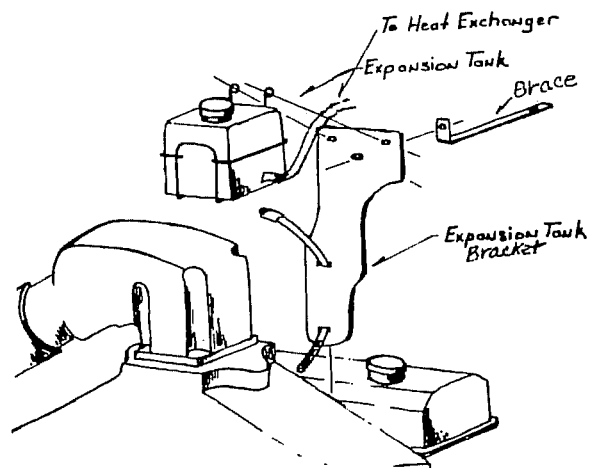

Figure 4
22. With the exp. tank bracket facing you (Figure 4) thread the #88 hose clamp through the two slotted holes at the bottom of the bracket. Slide tail of the hose clamp and bottom of the bracket down between the left exhaust manifold and valve cover. Tighten hose clamp so bracket is loosely held in place. Attach exp. tank brace between the exp. tank bracket and the center stud of the flame arrester, using 1/4" washer in kit & existing nylock nut (do not overtighten). Use the top center hole and the 3/8" bolt, nut and lock washer provided in your kit to secure brace to bracket. After brace is secured tighten the #88 hose clamp firmly. Mount the exp. tank to the bracket using the 1/4" bolts, nuts and washers in your kit. Cut to fit the piece of 5/16" hose to connect the spud at the fill neck of the heat exchanger to the spud at the bottom back of the exp. tank. Use the (2) 5/16" spring clamps to secure the hose. Use the remainder of the hose as an overflow, attaching one end to the spud at the top of the tank and running the other towards the bilge. NOTE OPTION: Expansion tank may be mounted wherever desirable.